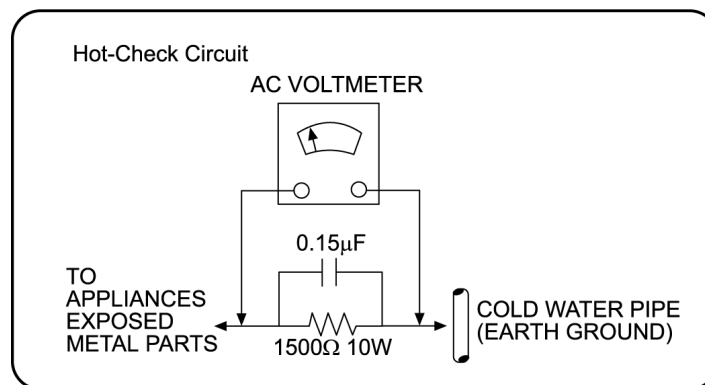

Fig. 1
1.1.2. Leakage Current Hot Check (See Fig. 1)
2. Connect a $1.5k\Omega$, 10 watts resistor, in parallel with a $0.15\mu F$ capacitors, between each exposed metallic part on the set and a good earth ground such as a water pipe, as shown in Fig. 1.